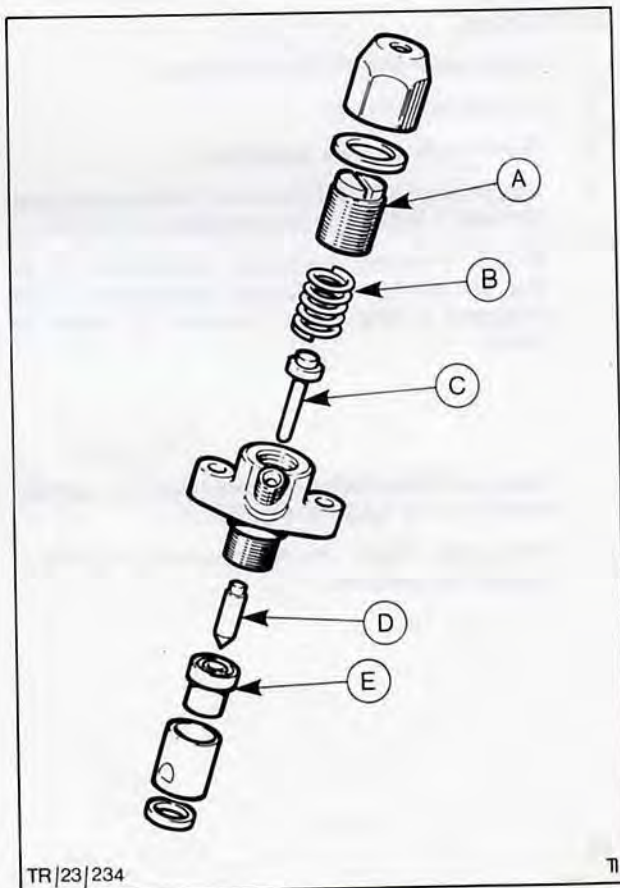

Fig. 59. Injector dismantled
9. Re-assemble injector as follows: Fig. 59.